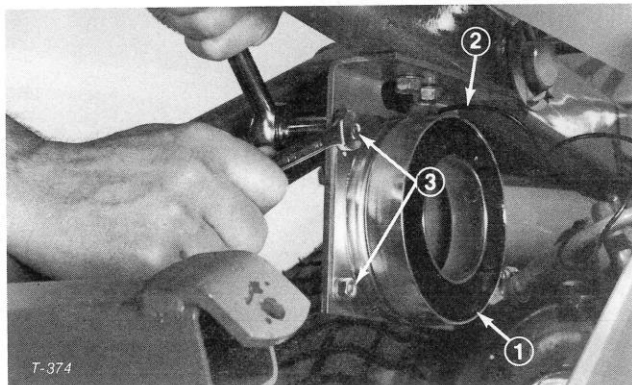

Figure 20
8. Install field core coil assembly onto bracket ensuring wire lead is at top (Fig. 20). Secure coil with capscrews, lockwashers and nuts (Fig. 20).